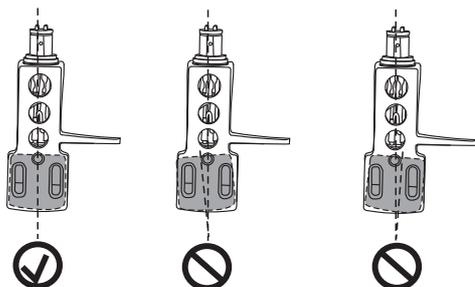

Fig. 3: Tone arm balance
- 3 For optimized pick-up the overhang – the distance between the pick-up and the axle of the turntable – should be set to 15 mm. Make sure that the system is centered (correct azimuth) and the screws are fixed (Fig. 3).